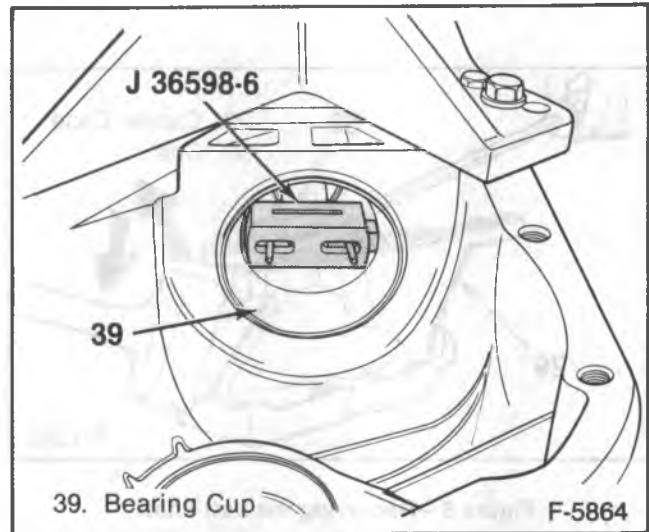

Figure 16—Removing the Inner Bearing Cup
32. Bearing cup (39). Use J 36598 (figure 16).